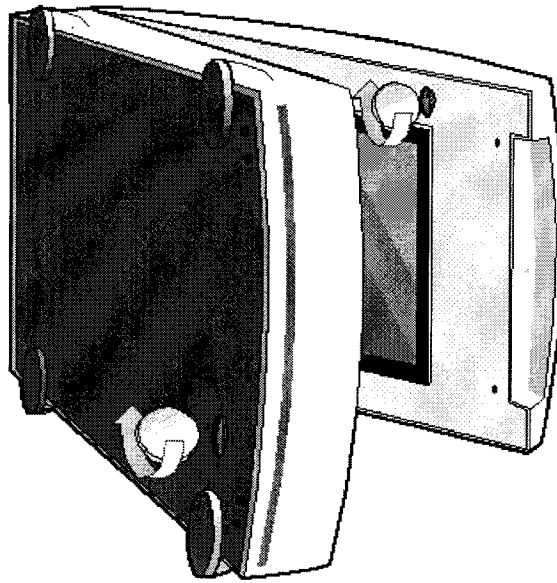

Fig. 2.5
5. Lock the locking screws with a small coin by rotating clockwise (Figure 2.5). Push the locking screw in and tighten it.